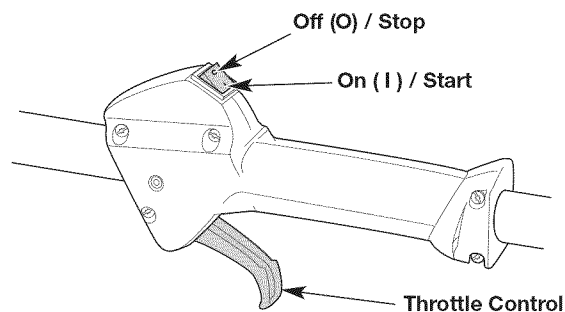
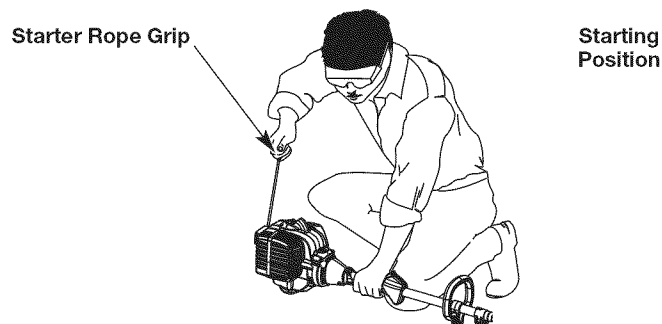

Fig. 8
Fig. 11
WARNING: Avoid accidentally starting the unit. To avoid serious injury, the operator and the unit must be in a stable position when pulling the starter rope (Fig. 11).
NOTE: There is no need to turn the unit on. The On/Off switch is in the ON (I) position at all times (Fig. 8).
5. Crouch in the starting position (Fig. 11).
6. **DO NOT** squeeze the throttle control (Fig. 8). Pull the starter rope with a controlled and steady motion until the unit starts (Fig. 11).
9. Squeeze and hold the throttle control (Fig. 8). Continue warming the engine for an additional 30 to 60 seconds. The unit may be used during this time.
2. Press and hold the On/Off switch in the OFF (O) position until the engine comes to a complete stop (Fig. 8).
- NOTE:** There is no need to turn the unit on. The On/Off switch is in the ON (I) position at all times (Fig. 8).
7. **DO NOT** squeeze the throttle control (Fig. 8). Run the Speed Start™ accessory in intervals no longer than 2 seconds each until the unit starts.
11. Squeeze and hold the throttle control (Fig. 8). Continue warming the engine for an additional 30 to 60 seconds. The unit may be used during this time.